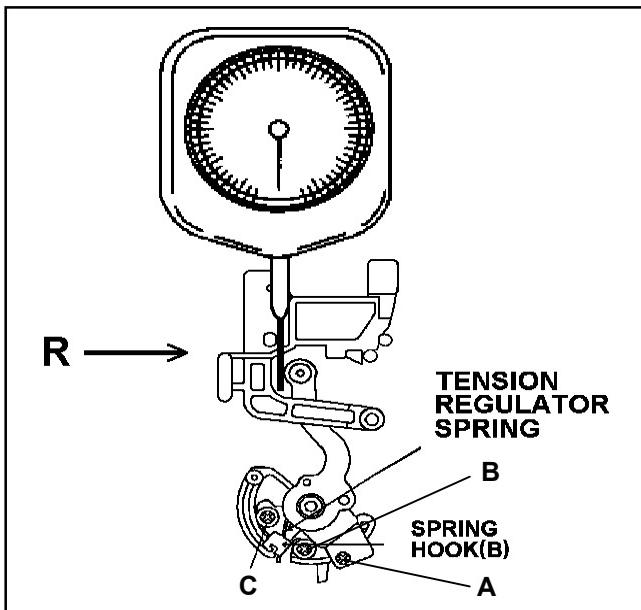

Figure 3-7-1
4. Push the tension post to the direction R by the tension gauge as shown in Figure 3-7-1 until the voltage at the test point becomes 1.2V (It means REV position).
6. After finishing this adjustment, glue the screw (A), (B) and (C). The glue quantity at (B) is half of (A) and (C). Glue the screw (A) and (C) should be as big as a grain of rice. For the screw (B), it should be half of that.